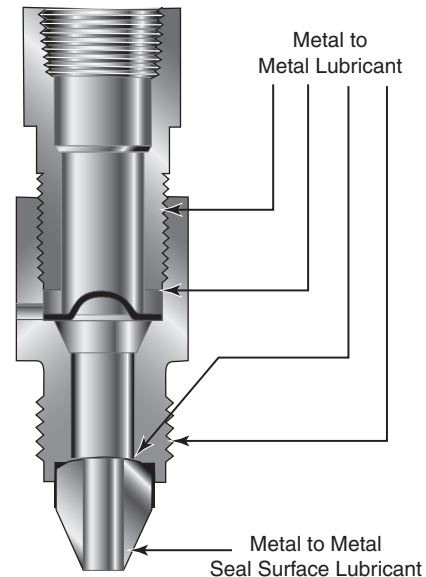

Figure 5
6. **Safety Heads** - The threads and end of the hold down nut should be lubricated. Refer to Figure 5 for lubrication sites on the safety head.